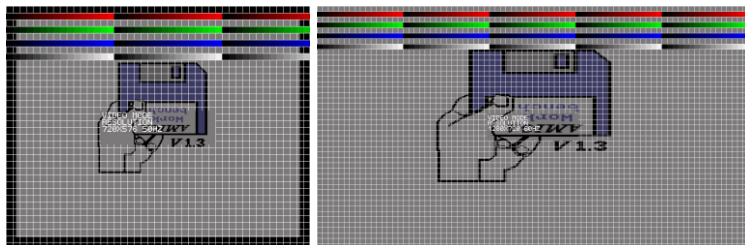

Figure 5: The overlaid grid indicates the output resolution (left: 720x576, right: 1280x720)
The parameter **Video Mode** (9) selects the output video mode. Turning the knob in this state switches through the following modes: 640x480 50Hz, 640x480 60Hz, 720x576 50Hz, 720x576 60Hz, 1280x720 50Hz, 1280x720 60Hz. While the selection is active, a grid is displayed as shown in Figure 5. This grid indicates the area of the